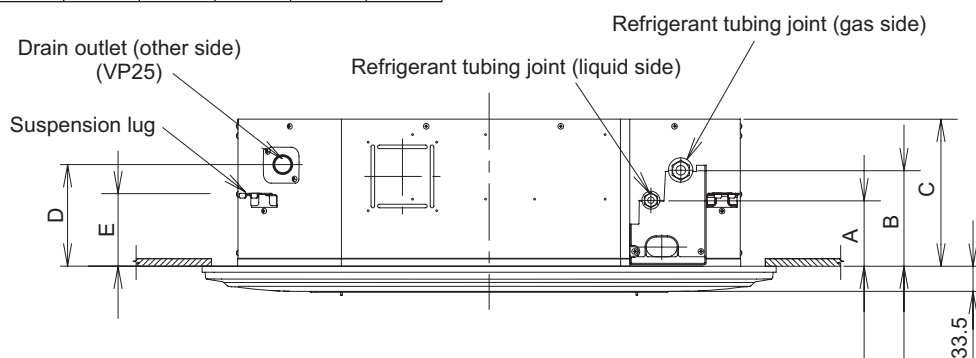

Fig. 2-43
- (3) Determine the pitch of the suspension bolts using the supplied full-scale installation diagram. The diagram and table (Fig. 2-43 and Table 2-14) show the relationship between the positions of the suspension fitting, unit, and panel.